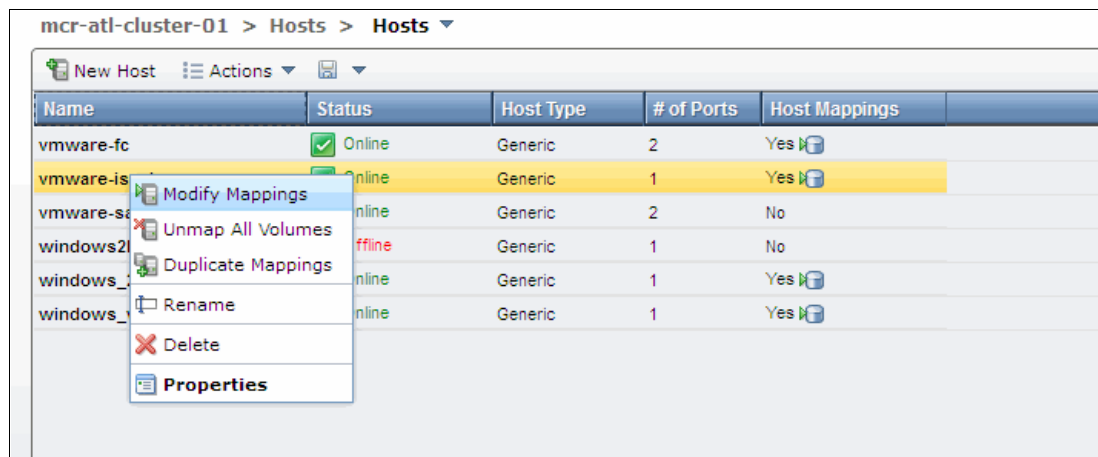

Figure 5-28 Modify mappings selection
2. Right-click the host to which a volume is to be mapped and select **Modify Mappings**, as shown in Figure 5-28.